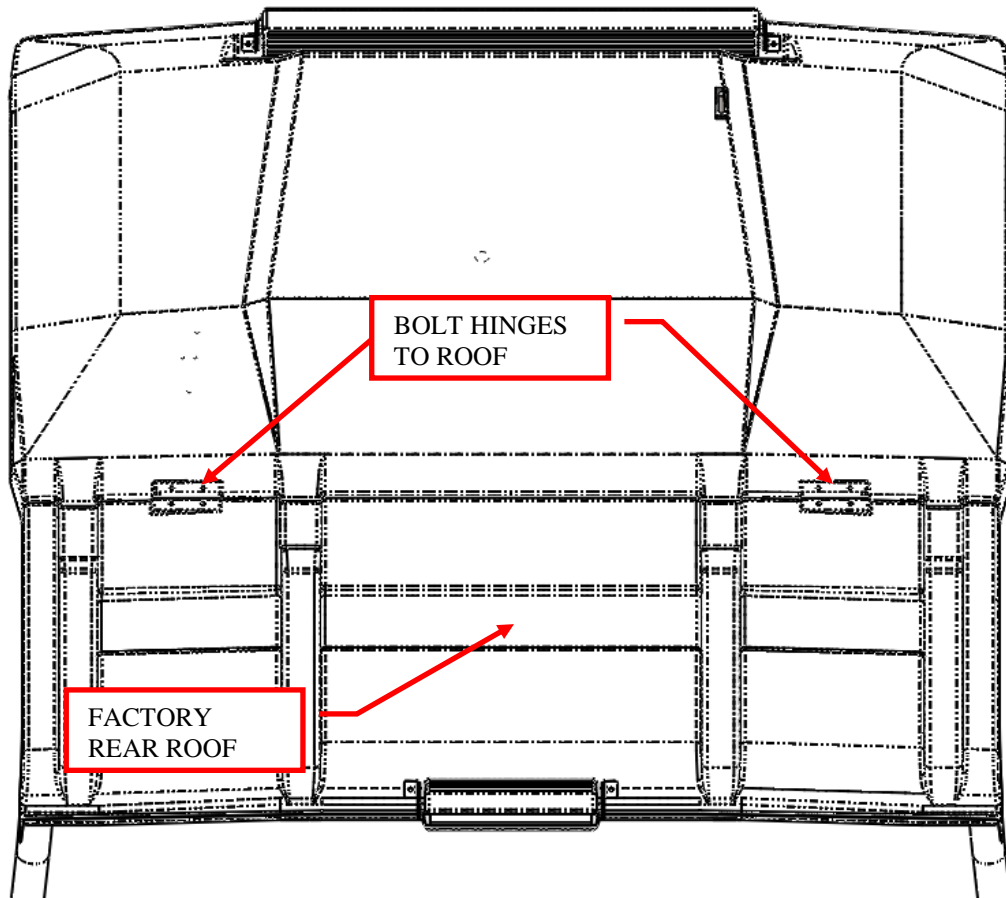

Figure 9: Attach the factory roof to the Audio Shade roof.
9. Place the factory rear roof on top of the cage and lineup the hinges with the holes in the Audio Shade roof. Remove the fasteners plugging the hinge holes in the roof. Re-install the ¼-20 button head fasteners through the hinges. Use an assistant to hold the nut with washer on the inside of the roof (access through the outside speakers) while you loosen or tighten the button head bolts. Apply black RTV silicone under the head of the bolts to seal the holes. See Figure 9.